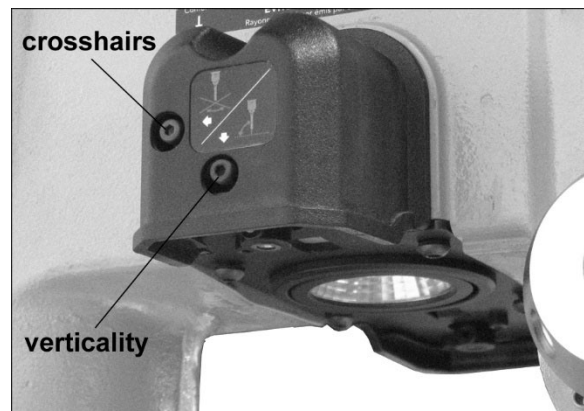

Figure 8-9
4. Use the screw located toward *front* of laser assembly, to adjust verticality of laser line (Figure 8-9). Turn screw as needed (2.5mm hex wrench), and move board side-to-side as needed, until laser light (E) aligns with board marking (B).
- Use the screw (Figure 8-9) located toward *back* of laser assembly, to adjust the cross hair. Turn screw as needed until laser line (M) crosses perforation (L).